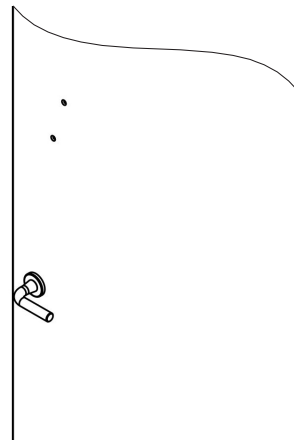

Figure 31
- Countersink holes on the opposite face of the door to fit the supplied oval head screws. (Figure 31)